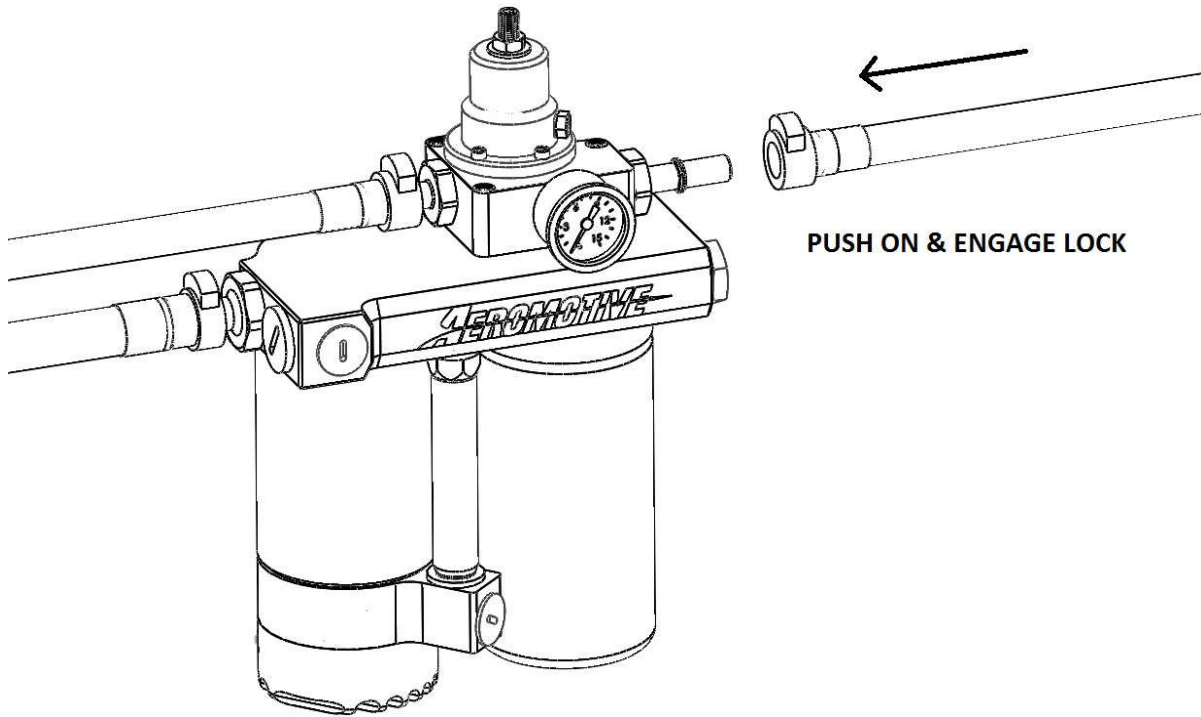

FIGURE 1-3
4. Use the last fuel hose marked 118-01E3-0 to connect to the outlet of the fuel pump. Connect the other end to the factory hard line feeding the injection pump. **FIGURE 1-3**